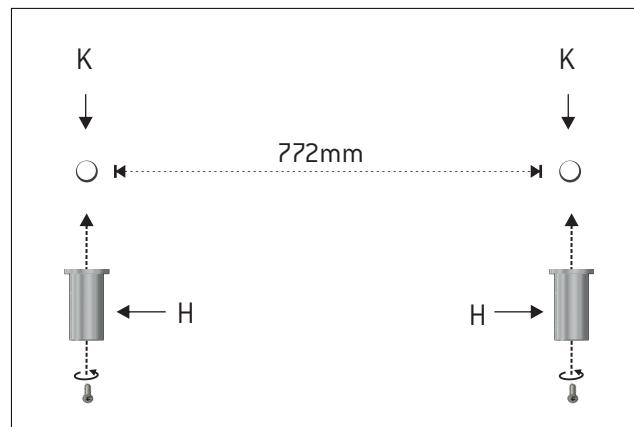
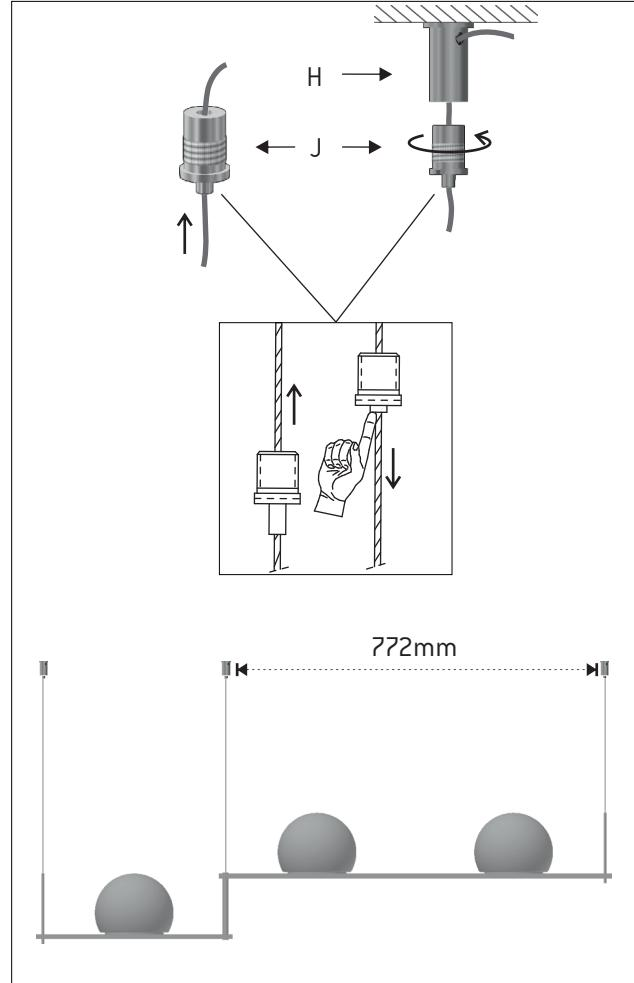

Figure 7
Figure 8
7 - Mark one spot (K) on the ceiling at a distance of 772mm between them and fix the tensors (H) in the mark. Figure 7. (See figure 8 to see the result)
8 - Insert the steel cables into the gripper supports (J) and then insert them through the side hole of the tensors (H). Again screw the gripper support to the tensor and adjust the cable to the desired length. Figure 8